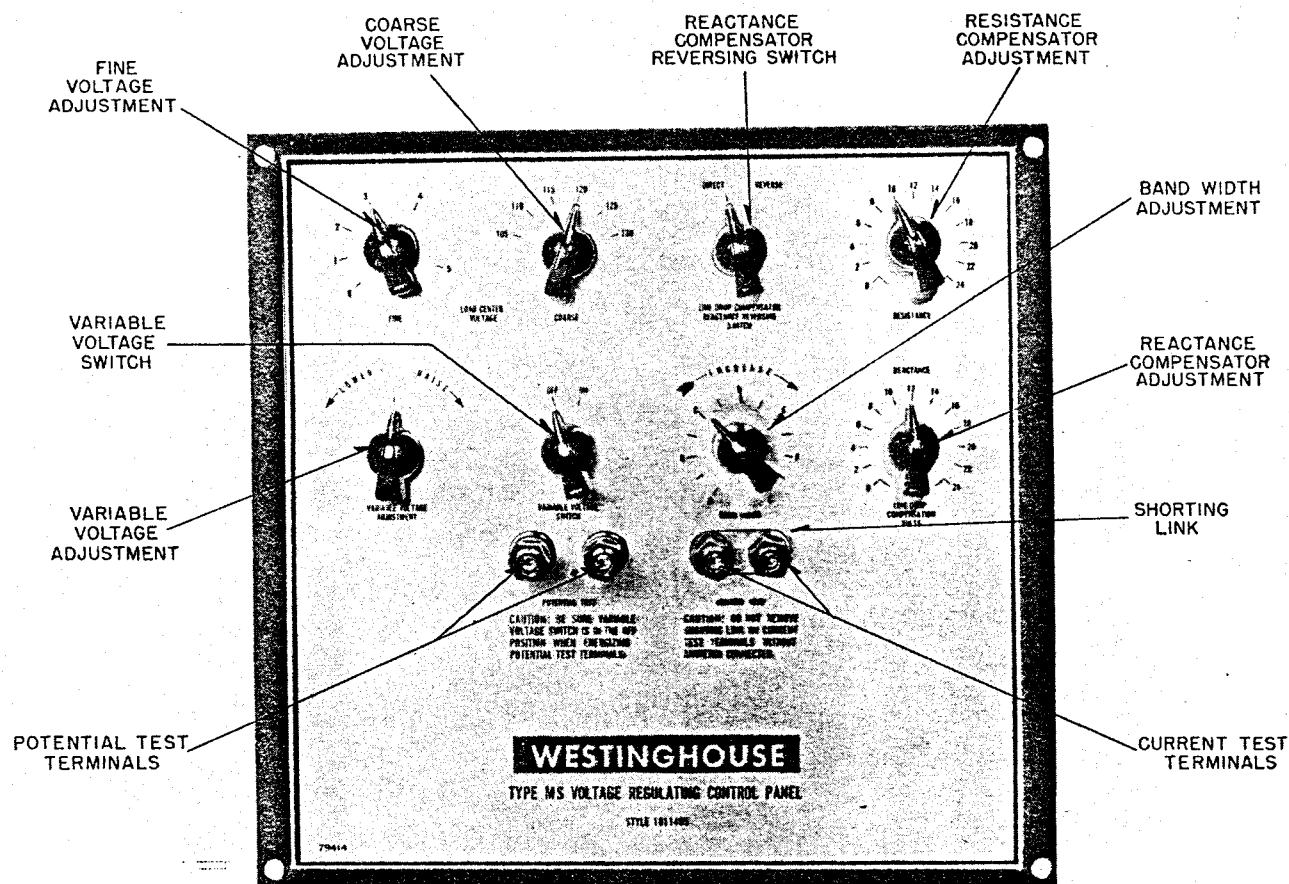
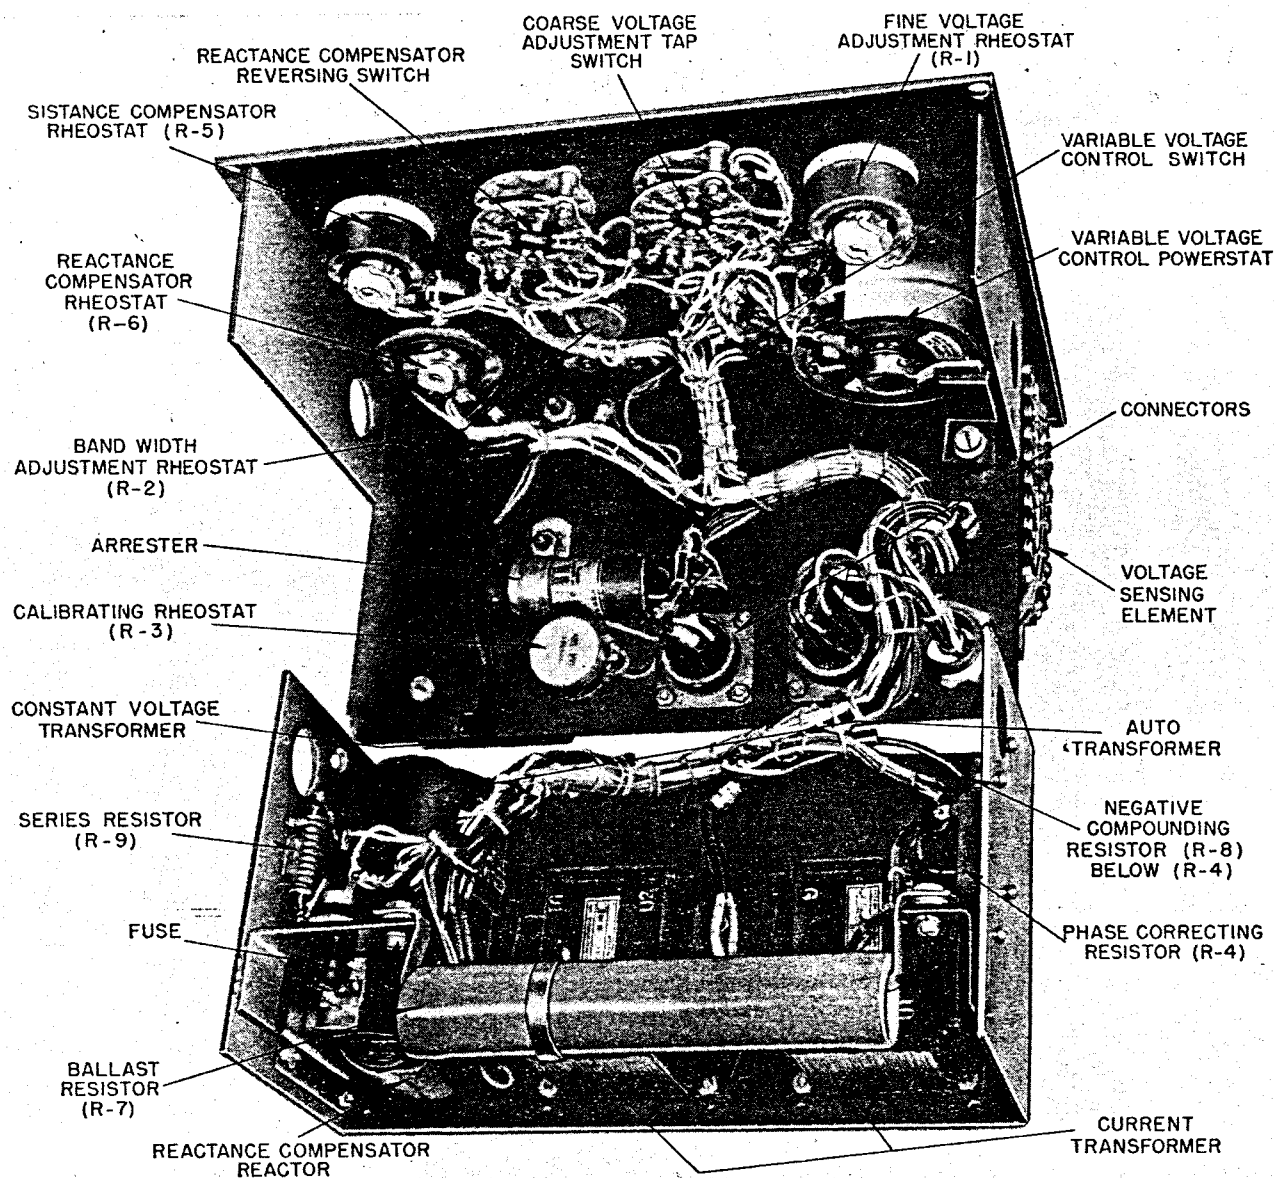

FIG. 1. Front View of MS Voltage Regulating Relay
FIG. 3. Rear View of MS Relay Panel
**Voltage Regulating Relay.** Detailed pictures of the MS voltage regulating relay are shown in FIGS. 1 and 3. The voltage sensing element containing the components for electrically measuring an unbalance in voltage is a sealed container mounted in back of the control panel as shown in FIG. 3. The components making up the sensing circuit are static devices consisting of a saturating transformer, rectifiers, a Magamp magnetic amplifier and resistors, to insure correct balance voltage under all conditions. An external resistor (R3) for calibrating the balance voltage is mounted on a bracket in back of the MS panel.
line drop compensation are mounted on the MS panel as shown in FIGS. 1 and 3. The panel is designed for use as a unit in the complete tap changer control assembly.
element. Reference FIG. 11. External connections from the MS voltage regulating relay are made through two AN connectors as shown in FIG. 3. Current and potential test terminals are conveniently located on the front of the panel.